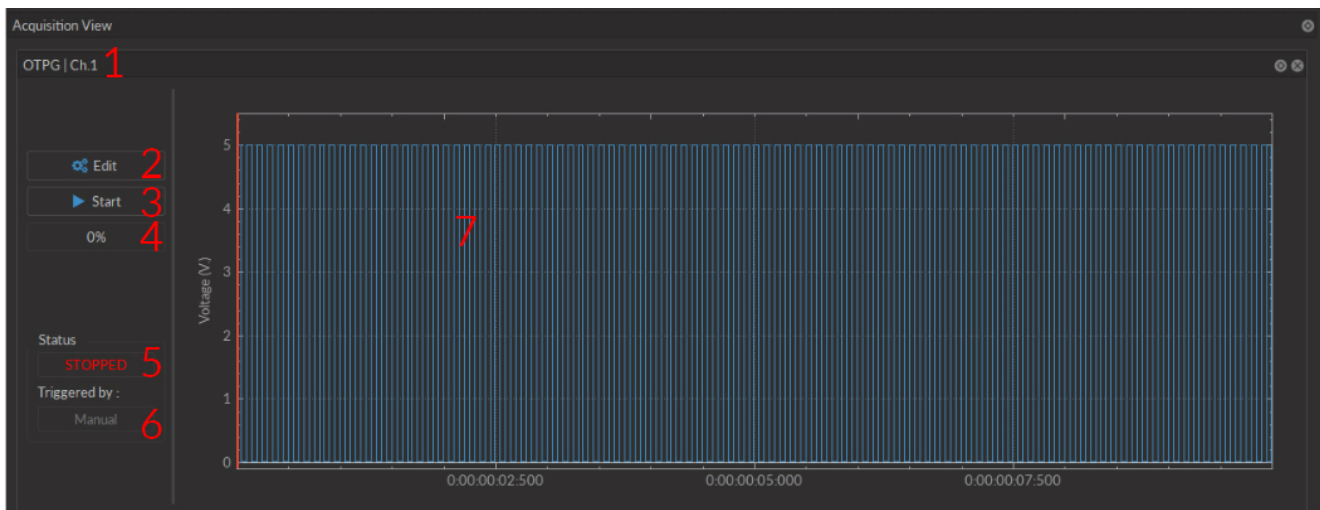
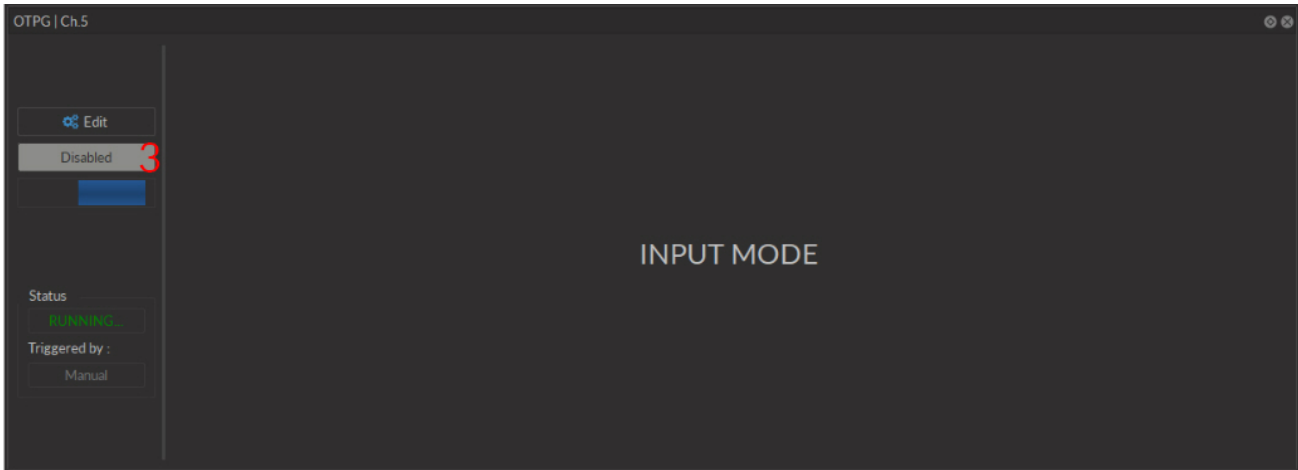
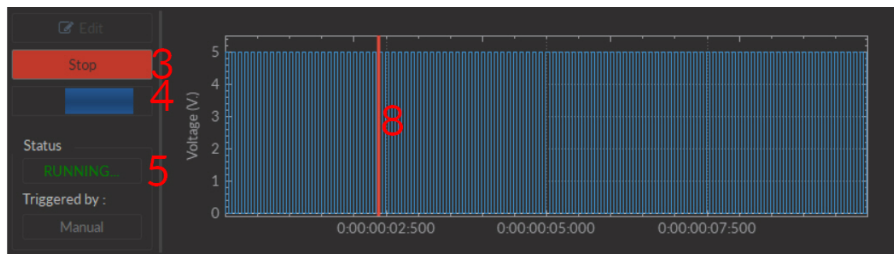

Figure 2.6: Acquisition View Box
Figure 2.7: Acquisition View Box, Input Mode
Figure 2.8: Acquisition View Box, Square Mode
1. The **Channel name** is located on the upper left of the **Channel box** (Fig. 2.6), identifying the type of channel and its number, corresponding to that on the OTPG.
- The **Edit** button (Fig. 2.6) allows the editing of channel parameters, opening the **Channel configuration** window. For further information, see section 2.1.1.
- The **Start** button (Fig. 2.6) activates the chosen channel without activating any other channel. The button is **Green** (Fig. 2.6 when inactive, **Red** (Fig. 2.8) when active and **Gray** (Fig. 2.7) when disabled.
- The **Progress Bar** (Fig. 2.6) will indicate the progress of the chosen sequence. Should the sequence be infinite, a scrolling blue bar (Fig. 2.8) is displayed.
- The **Status** box (Fig. 2.6) shows whether the channel is active, displaying **STOPPED** when inactive (Fig. 2.6) and **RUNNING...** (Fig. 2.8) when active.
- The **Triggered By** box (Fig. 2.6) shows the current trigger source of the channel sequence.
- The **Sequence Preview** box (Fig. 2.6) shows a graphed preview of the pulse sequence.
- The **Position Marker** (Fig. 2.7) is a red line on the **Sequence Preview** that indicates the position in time when the sequence is active.